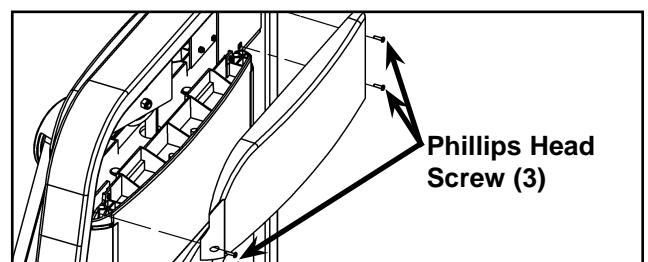

Figure 13
- C.** Install the three Phillips head screws securing the top (back) shroud. See Figure 13.